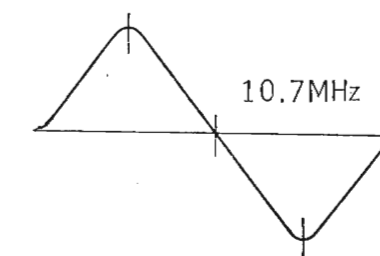

Fig. 20
- Oscilloscope, Sweep Generator and Marker generator connect same as FM-IF alignment. Then, adjust as follows until the waveform as shown in Fig. 20 is obtained.